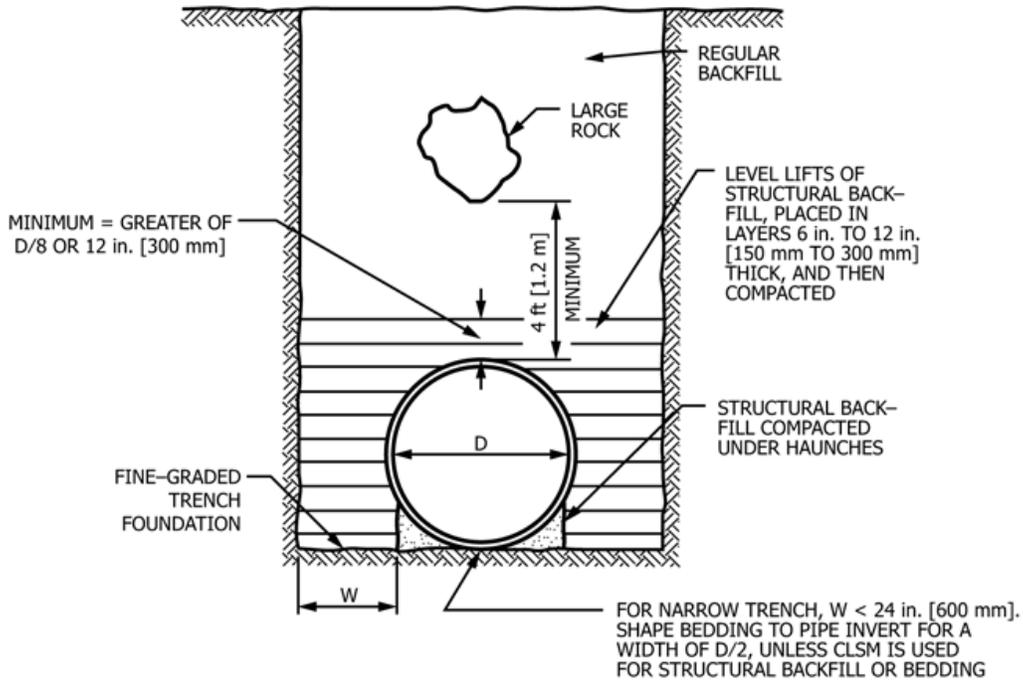

FIG. 1 Typical Trench Installation
- Creation and stabilization of the trench (in a trench installation) or preparation of the proposed installation site in an embankment situation. See Figures 1 and 2 on page 22.
Trench width is a function of pipe diameter or span and providing enough space beside the pipe to place and compact backfill. The trench diagram detail Figure 1 on page 22 provides specific guidance on proper trench dimensions and backfill placement. A trench installation should always be in compliance with all applicable safety regulations.